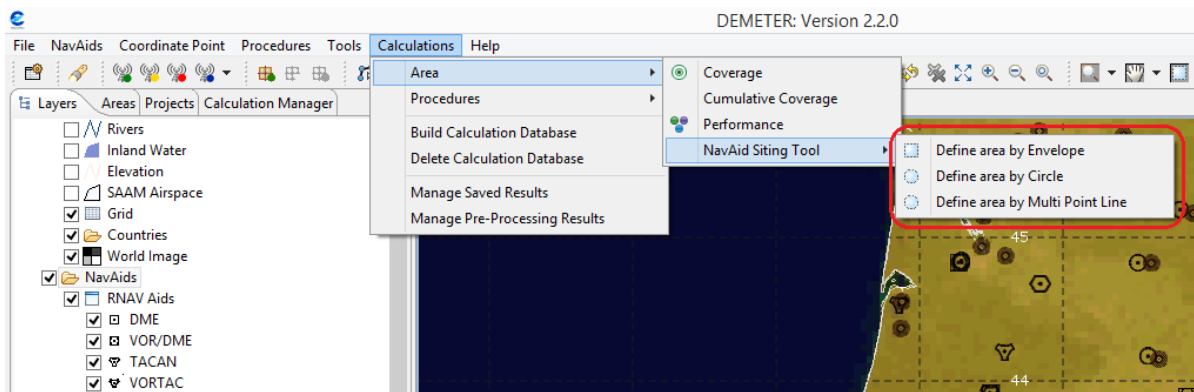

Figure 164: Siting tool, type of area selection
2. Select the "Calculations -> Area -> NavAid Siting Tool" and appears three different ways to choose the area of interest (Figure 164). Then choose one to proceed.